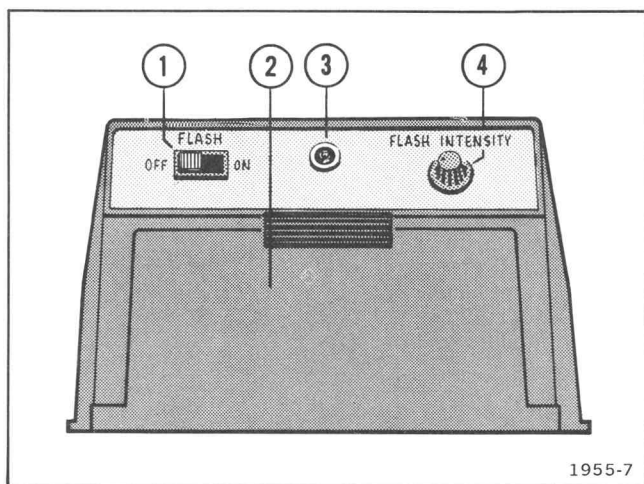

Fig. 2-2. Flash unit control and indicator locations.
Graticule Flash Unit (Fig. 2-2)
2. Set the FLASH INTENSITY control (Fig. 2-2) to mid-range (may require further adjustment for the best graticule contrast on photographs).
4. Open the crt viewing door (Fig. 2-2) and obtain the desired display on the instrument. If the instrument has graticule illumination, turn it off. Close the crt viewing door.
5. When the Ready Indicator LED (Fig. 2-2) begins blinking, take the picture, then advance and develop the film.